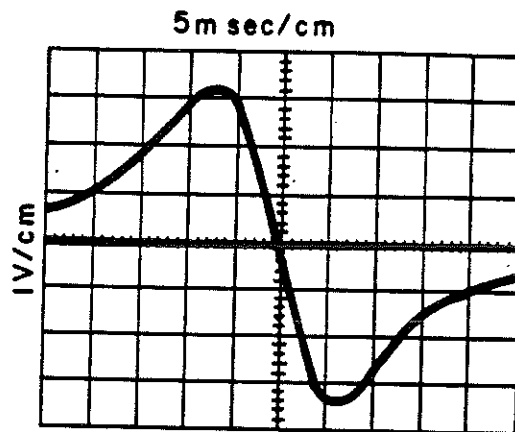

Figure 4-8. FM Discriminator Alignment, Typical Response
9. Adjust A4A9L1 and A4A9T1 for an Oscilloscope waveform which has maximum amplitude and is symmetrical and linear about the marker. See Figure 4-8 for a typical waveform.